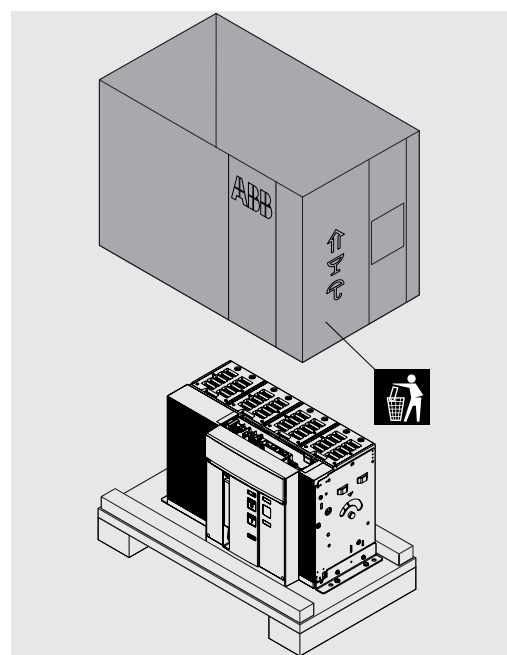

Figure 10
3. Remove the packing box by lifting it upwards. See Figure 10.